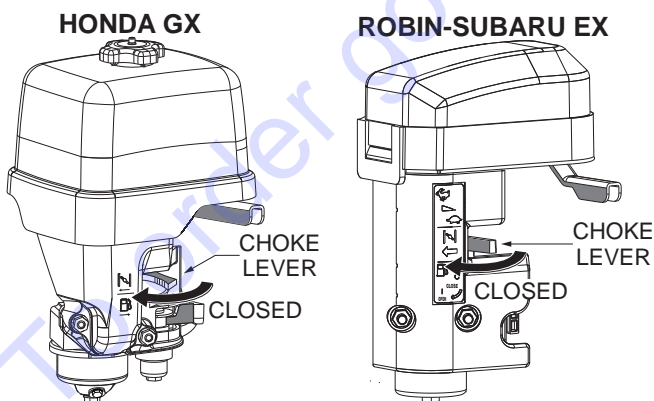

Figure 34. Choke Lever (Closed)
- If starting a cold engine, place the choke lever in the **CLOSED** position (Figure 34).
- If the engine has started, slowly return the choke lever to the **CLOSED** position (Figure 34). If the engine has not started, repeat steps 1 through 6.